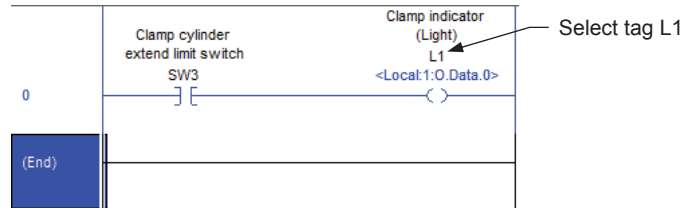

Figure 103. Assigning tag L1 to the instruction.
15. Assign the alias tag of the indicator light (L1) to the OTE instruction (Figure 103).